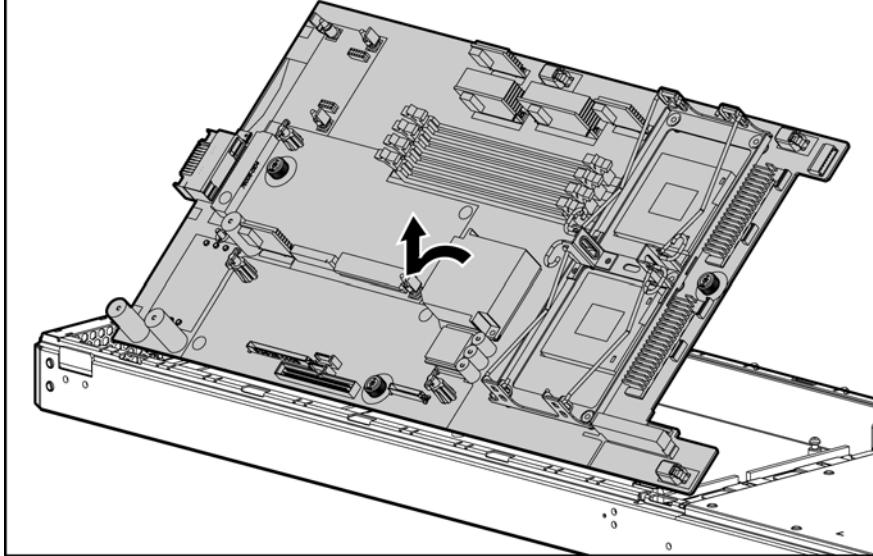

Figure 2-28: Removing the system board
15. Lift the edge of the system board nearest the system switches. The edge of the system board nearest the Smart Array 6i Controller connectors tilts down into the chassis, and the edge of the system board nearest the system switches tilts up out of the chassis. If necessary, refer to Figure 2-28 for the component locations.